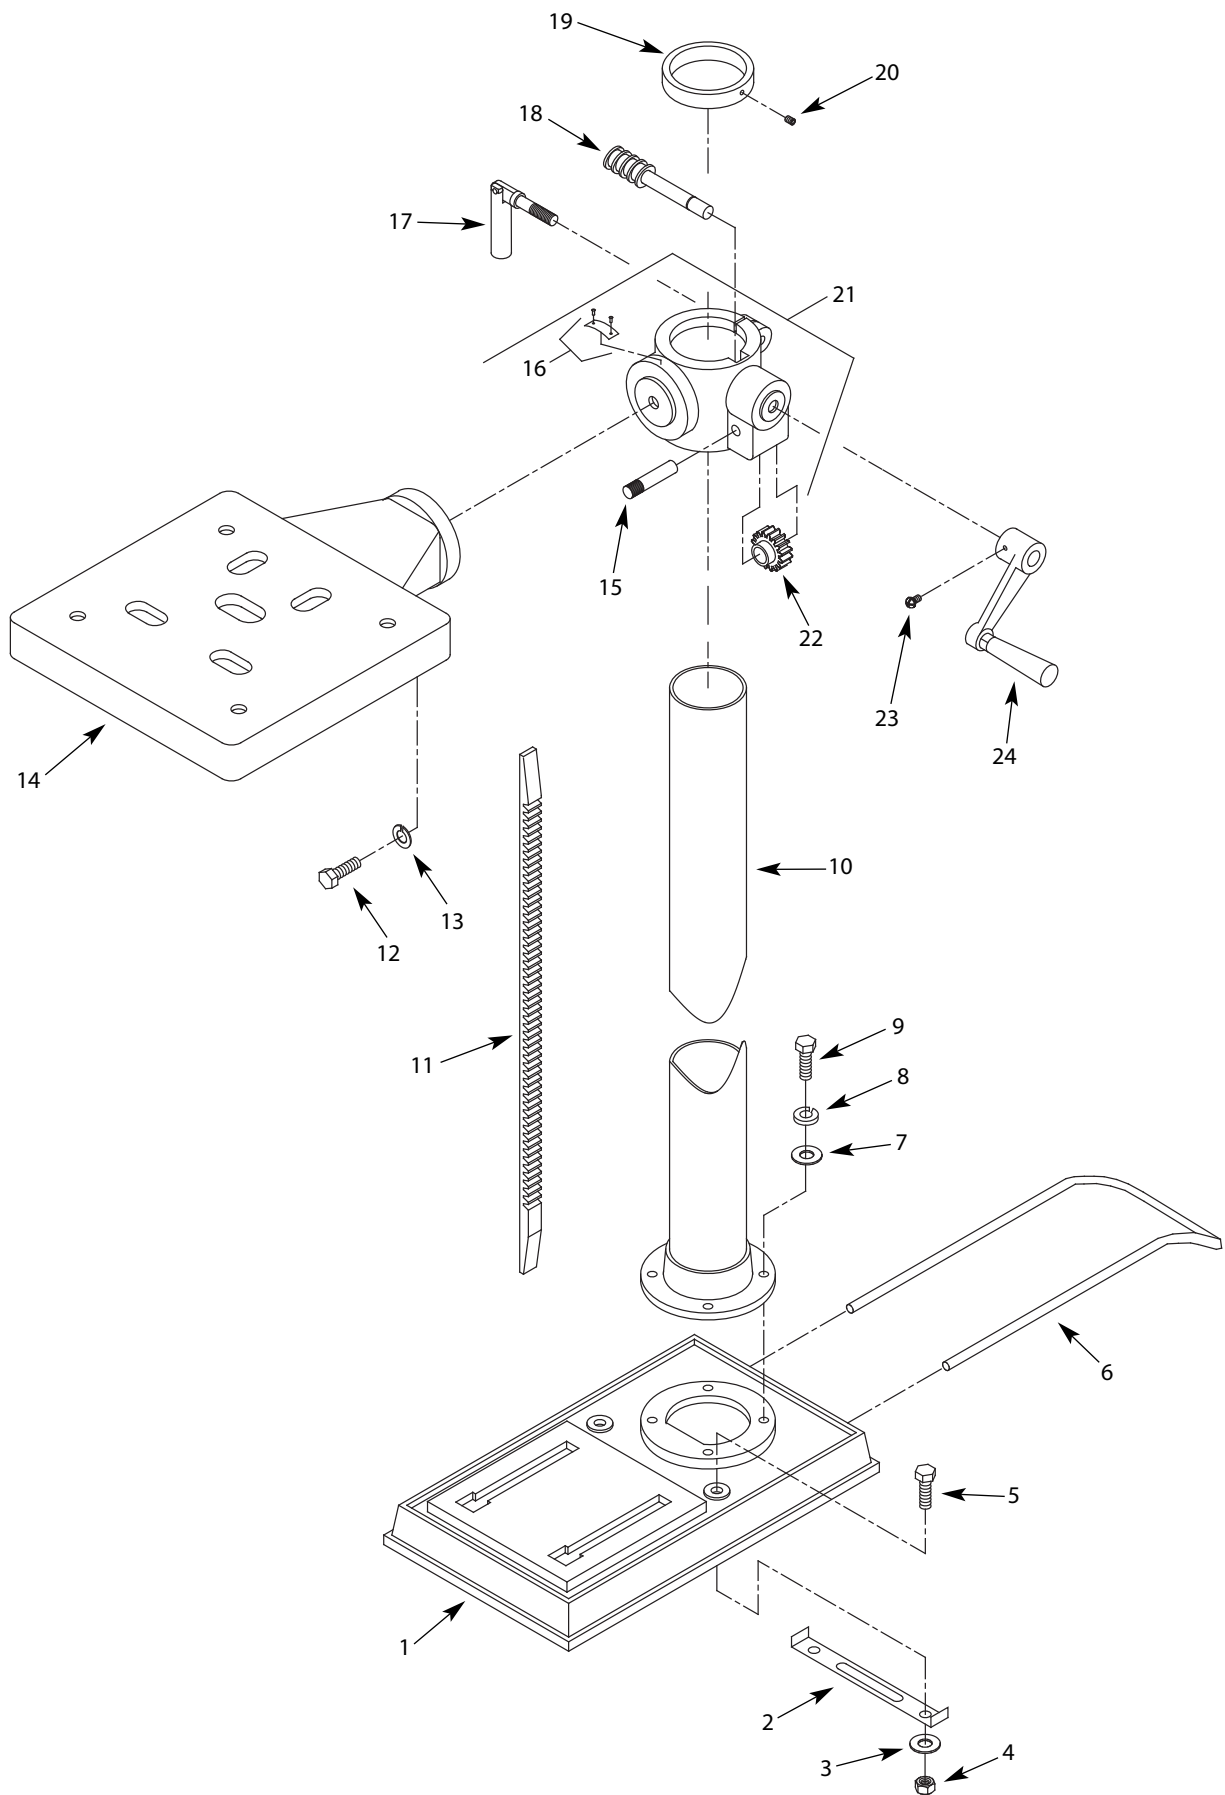

Figure 23 - Replacement Parts Illustration for Base (Model 80341A)
- Apply lubricant to rack and pinion gear (Figures 23 and 24, Ref. Nos. 11 and 22) on column and table assembly.